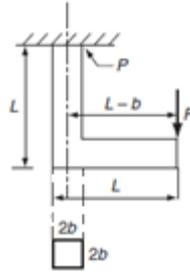

Figure 35 Question 47.
47. For the component loaded with a force  $F$  as shown in Figure 35, axial stress at corner point P is